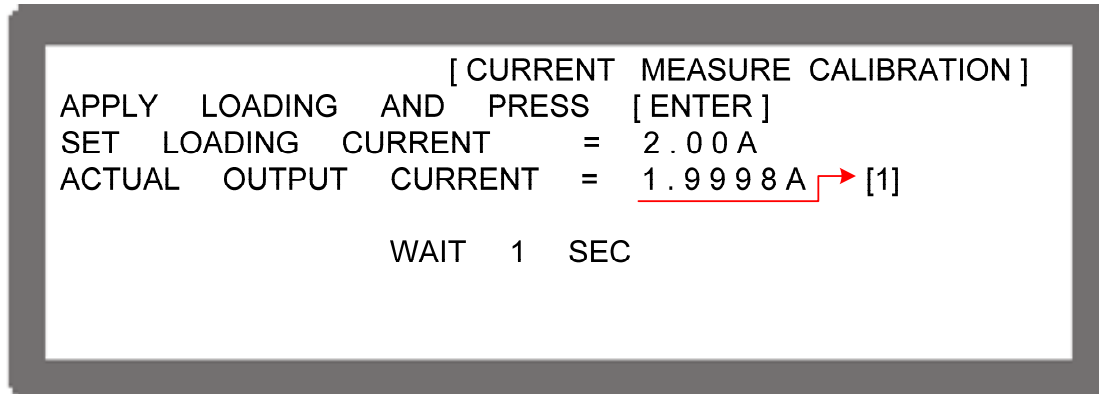

Figure 3-106
5. Then it will show Figure 3-106 and press “”. First it will calibrate the low current range, the system outputs 5V voltage and then sets the loading current of Electronic LOAD to 2.00A. The cursor is stopped at position [1] as Figure 3-106 shows. Enter the current (4 digits after decimal point) read by Current Shunt (DVM) and press “” to confirm and wait for it to end.